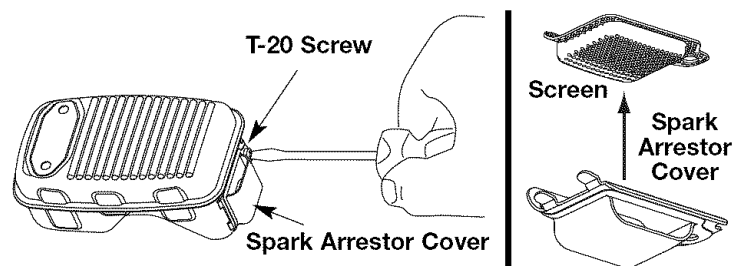

Fig. 28
3. With a flat blade screwdriver or Torx T-20 bit, remove the screw attaching the spark arrester cover to the muffler (Fig. 28).
5. Remove the spark arrestor screen from the spark arrestor cover (Fig. 28).